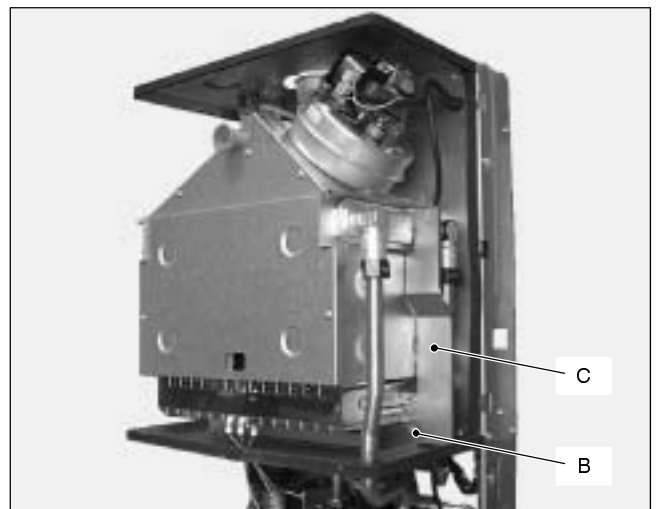

Fig. 79
- 3b For models M90D.28S and M90D.28SR, remove also the plate C (see Fig. 79 on page 39).
- 1b For models M90D.28S and M90D.28SR, remove the screw *B* and the plate *C* (Fig. 79).